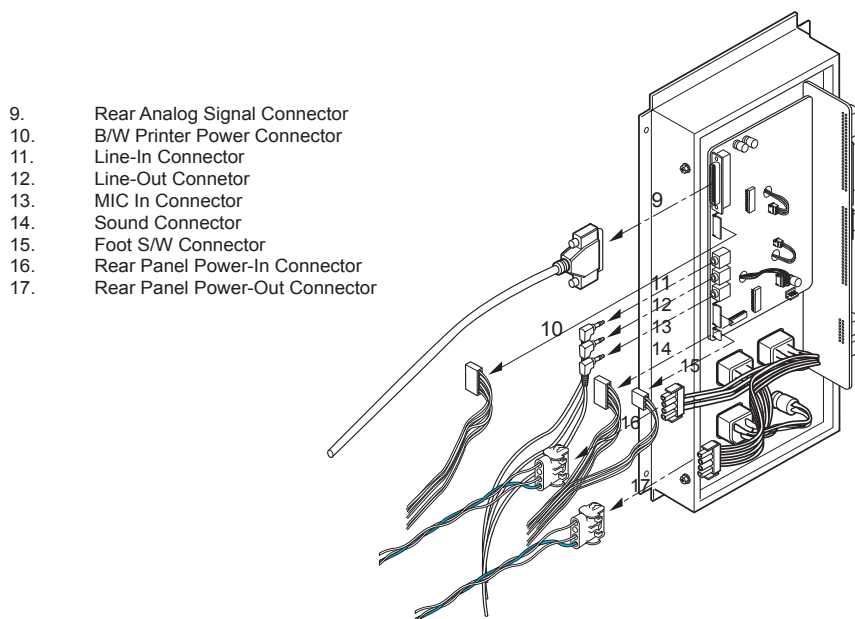

Figure 8-103 Disconnecting 9 connectors
6.) Disconnect 9 connectors (9-17) from the right side of the Panel. Refer to Figure 8-103 on page 8-55 .